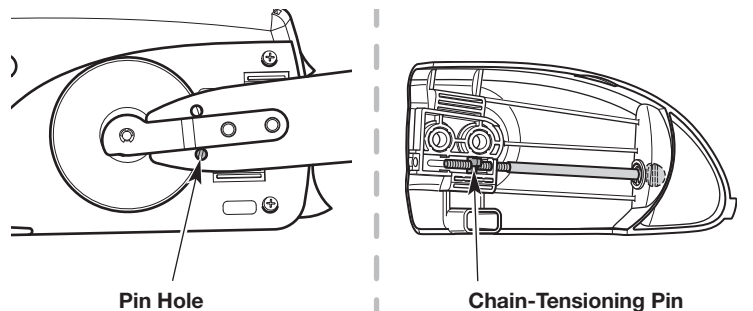

Fig. 30
7. Make sure the chain-tensioning pin is in the pin hole on the guide bar (Fig. 30). If necessary, turn the chain-tensioning knob to move the chain-tensioning pin (Fig. 24).